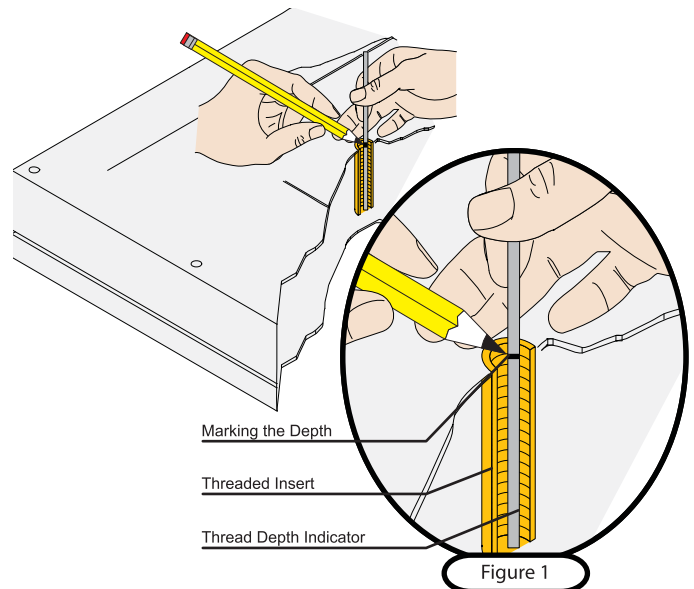

Figure 1
- 2) Use a pencil to mark the depth of the thread insert on the Thread Depth Indicator, as shown in Figure 1.